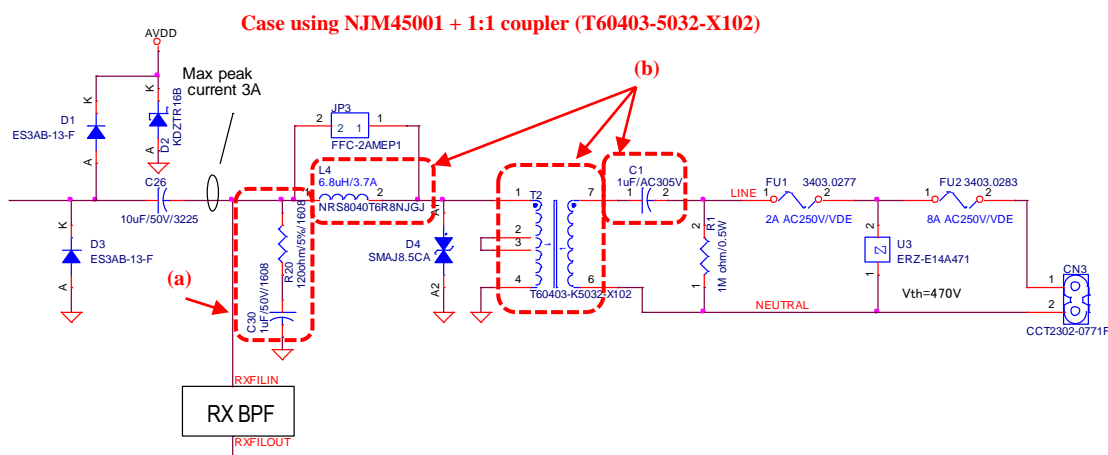

Figure 3-13 Example of impedance measures for EN50065-7 in CENELEC-A band
- The RX impedance at 3kHz-9kHz may not meet the EN50065-7 compatible impedance standard due to the resonance of C1 and T2 (main inductance). In order to suppress the peak due to the resonance, it is recommended to place R20=120Ω and C30=1μF in the part (a) of Figure 3-13.
- The TX impedance at 95kHz-148.5kHz may not meet the EN50065-7 compatible impedance standard due to the resonance frequency of C1 and (L4 + T2(leakage inductance)) in the part (b) of Figure 3-13. Set so that the resonance frequencies of L4 + T2 (leakage inductance) and C1 are within the band of CENELEC-A band.